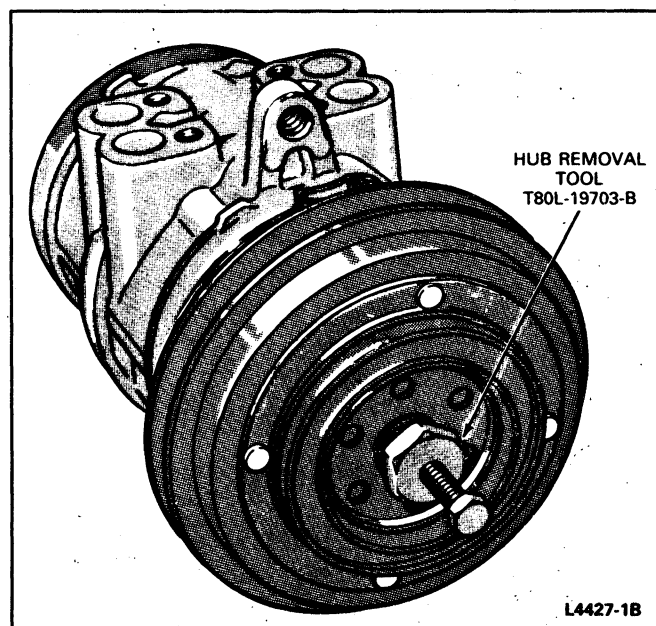

FIG. 5 Clutch Hub—Removal
2. Remove the clutch hub and shims from the compressor shaft with Hub Remover T80L-19703-B or equivalent (Fig. 5). Hold the tool with a